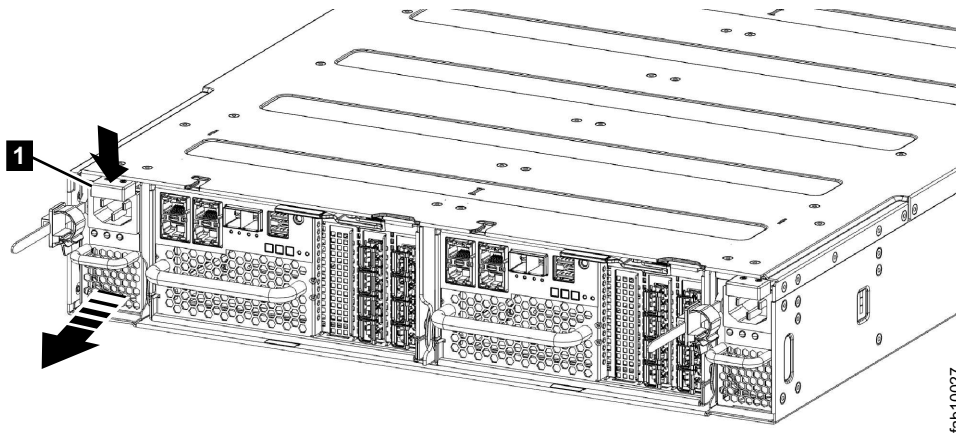

Figure 86. Removing the power supply unit (left side of enclosure)
5. Using the handle, firmly pull the power supply out of the enclosure shown in Figure 86 on page 307.